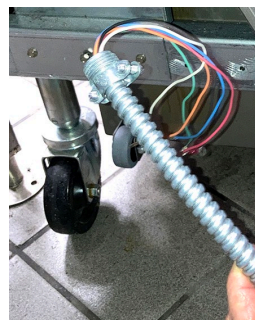

Figure 17
- c. Gain access to to the rear of the fryer. Starting from the rear of the fryer, insert the conduit with the wires shown (see Figure 17) into the rear of the fryer.